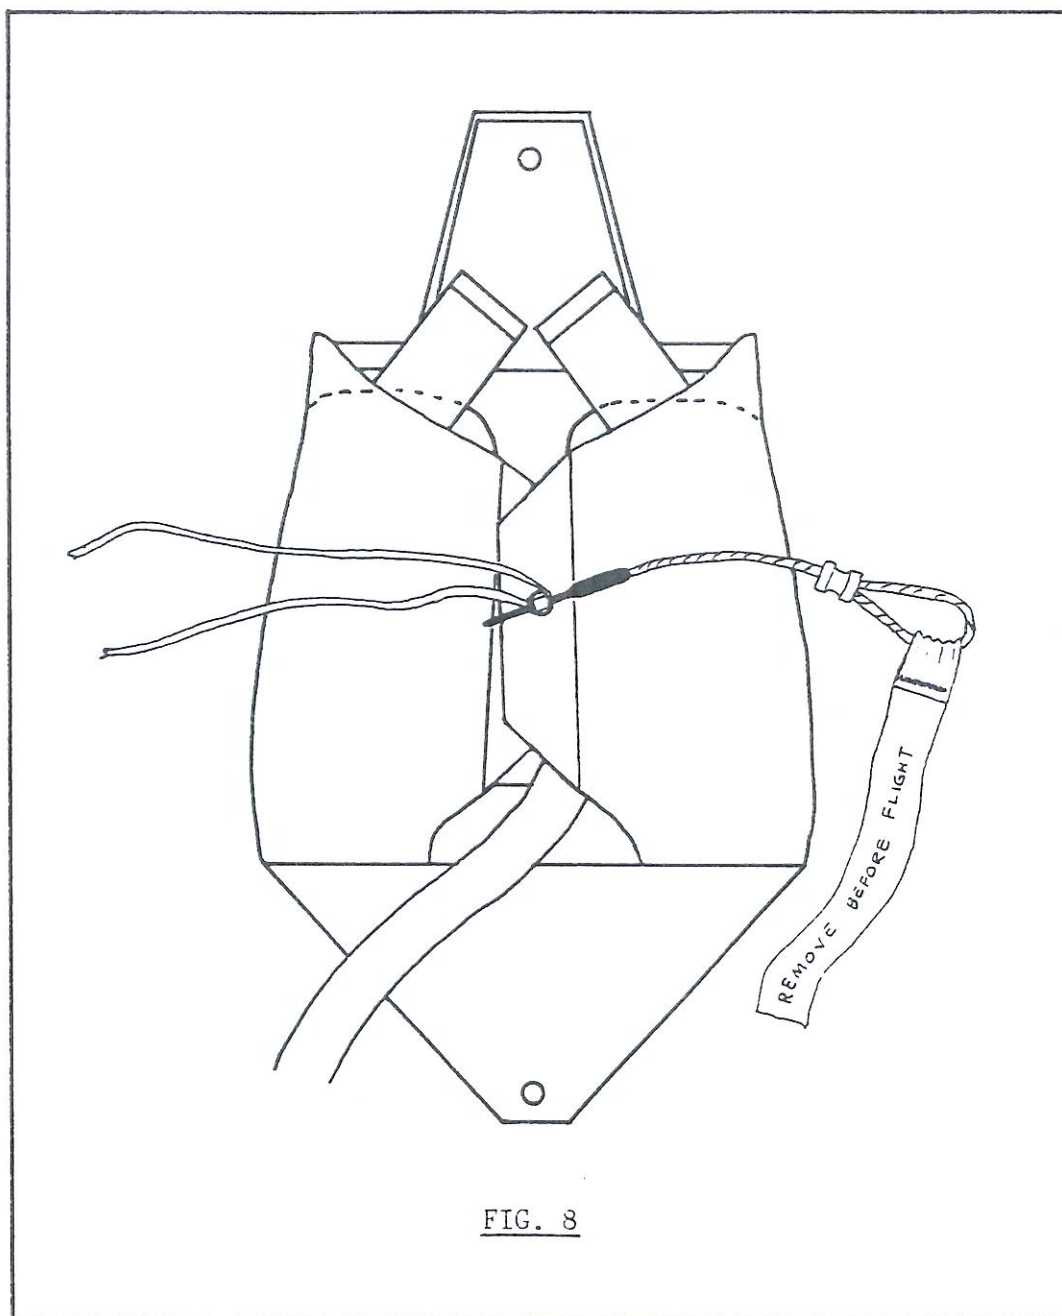

FIG. 8
- 10) On each side of the top plate make a roll or fold in the pilot chute fabric parallel to the side of the reserve container, and push this roll under the top plate. Fold the bridle in accordian folds across the bottom of the container on top of the side flaps. The width of the folds will vary with the width of the container; a simple rule-of-thumb is: "make the folds as wide as possible, but not so wide as to be seen after the bottom flap has been closed". (FIG. 8)
- 7) Lay the reserve risers in the container so that the connector links are in the lowers corners of the container. Pass the pull-up cord thru the closing loop, then thread it thru the grommet in the bag. Lay the bag in the container with the line-stow pouch on the under side, and route the bridle back along either side of the closing loop. Close each side flap in turn, securing the flaps with the temporary pin. Push the tuck flaps under the ears of the bag. The bridle should now exit the container at the bottom (FIG. 8).